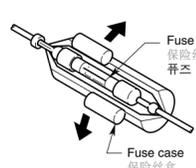

Figure 10 / 图 10 / 그림 10
4. To replace the fuse, open the lock on the source unit side, remove the old fuse and insert the new one. (Figure 10)
4. 更换保险丝时，打开音源装置侧的锁，取出旧保险丝后装入新保险丝。(图 10)